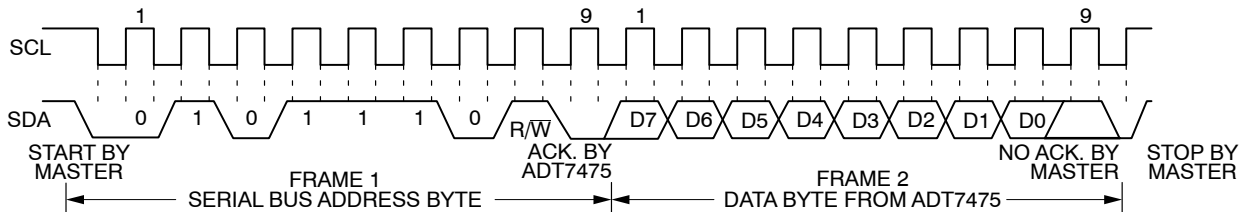

Figure 15. Reading Data from a Previously Selected Register
A read operation is then performed consisting of the serial bus address; the  $R/\overline{W}$  bit set to 1, followed by the data byte read from the data register see Figure 15.
2. If the address pointer register is known to be already at the desired address, data can be read from the corresponding data register without first writing to the address pointer register see Figure 15.